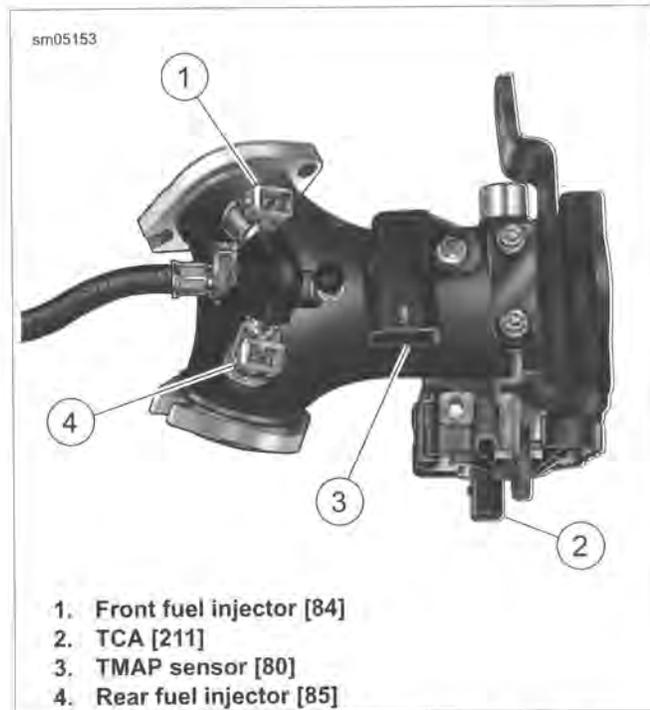

Figure 7-105. Induction Module Assembly (Top View)
3. See Figure 7-105. Remove connectors from induction module:
- a. Disconnect TMAP sensor connector (3). Pull back yellow lock, push down firmly on latch and disconnect connector.
- c. Disconnect TCA connector (2). Release anchored cable strap securing harness to induction module.